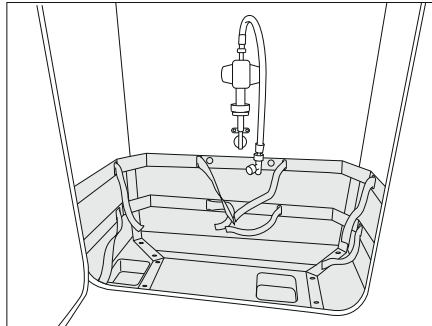
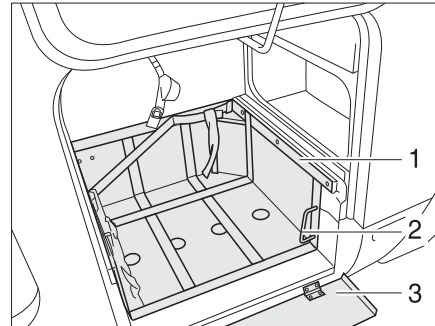

Fig. 227 Gas bottle compartment
Fig. 228 Gas bottle compartment with extendable slide
- If there is a guard plate (Fig. 228,3), fold it down.
- Unlock the slide (Fig. 228,1) using the handle (Fig. 228,2).
- Pull out the slide (Fig. 228,3) as far as possible.
- Turn back the handle (Fig. 228,2).
- Unlock the slide (Fig. 228,3) using the handle (Fig. 228,2).
- Push in the slide (Fig. 228,3) as far as possible, and turn back the handle (Fig. 227,2).
- If there is a guard plate (Fig. 228,1), fold it up.